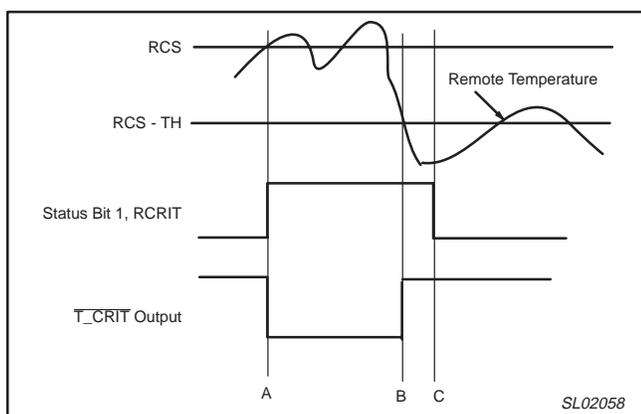

Figure 7. T\_CRIT temperature response timing diagram
After every local and remote temperature conversion the Status register flags and the T\_CRIT output are updated. Figure 7 is a timing diagram showing the relationship of T\_CRIT output, Status bit 1 (RCRIT) and the remote critical temperature setpoint (RCS), and critical temperature hysteresis (TH) with remote temperature changes. Note that the T\_CRIT output is de-activated only after the remote temperature is below the remote temperature setpoint, RCS minus the Hysteresis, TH. In the interrupt mode only, the Status register flags are reset after the Status register is read.